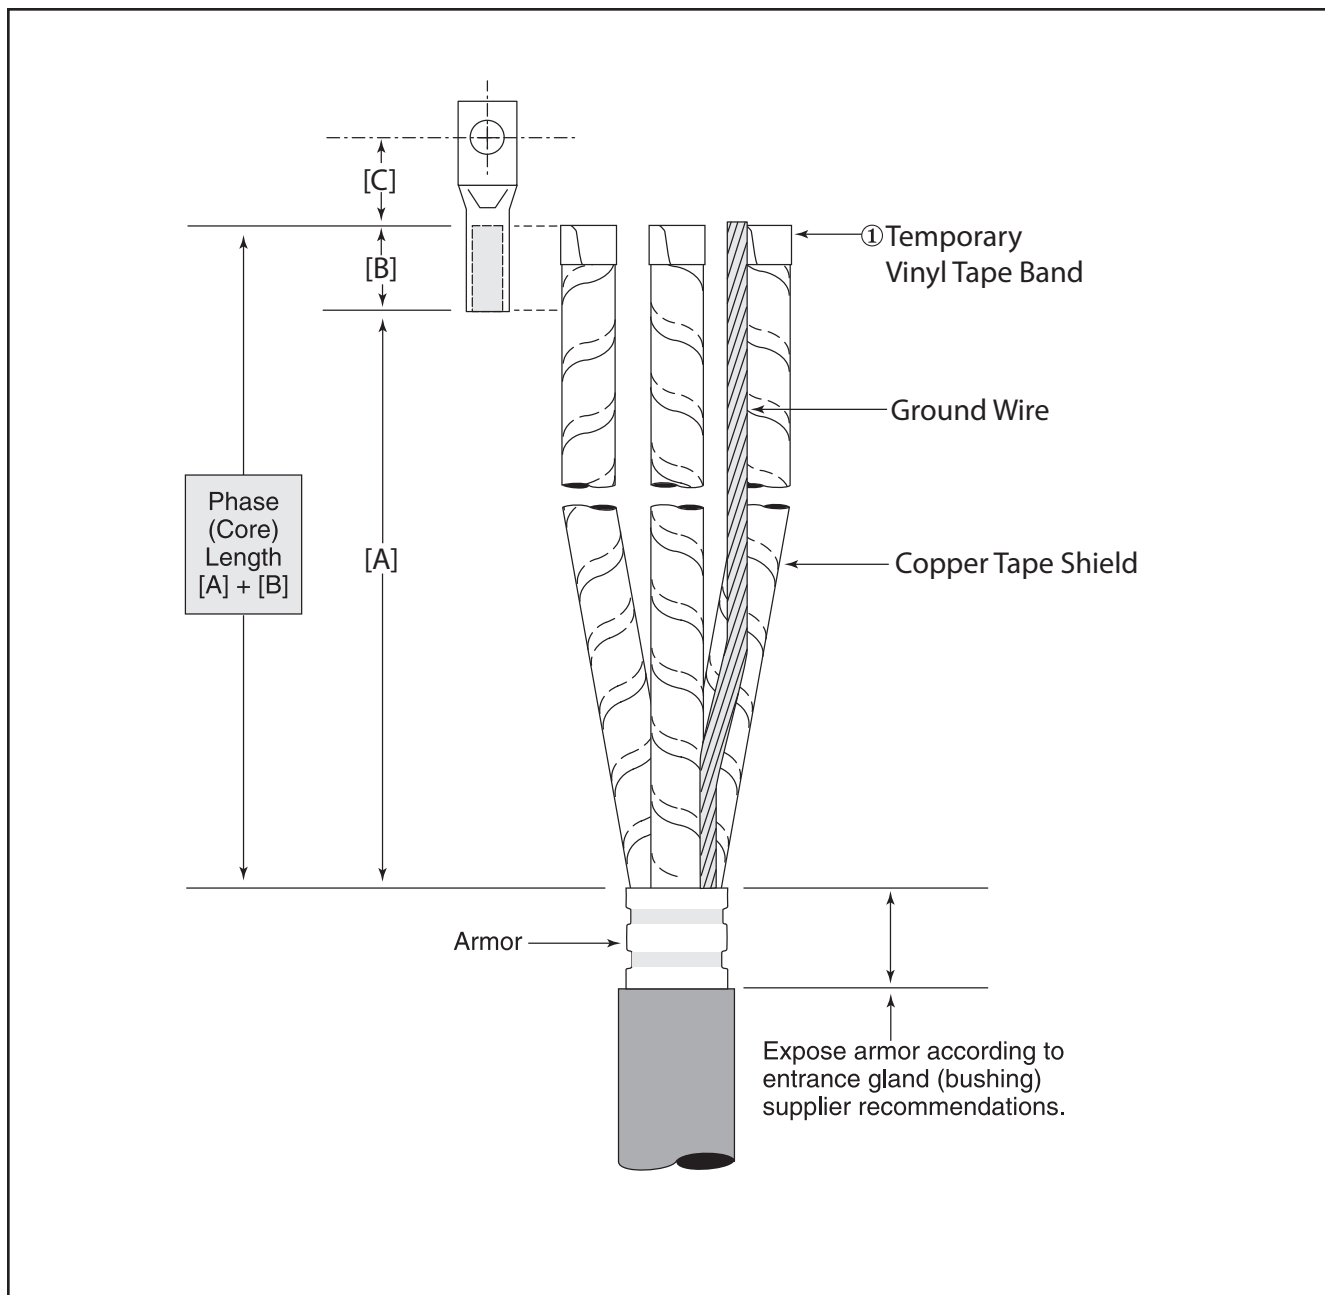

Figure 1
- 1.1 Determine phase (core) length required for correct phase spacing and bolted terminal lug connections ([A] + [B], Figure 1, according to the longest phase to be connected). Allow for dimension [C] as needed.
- 1.3 Remove bedding (inner sheath), if present, and any remaining core fillers. Secure each copper tape shield end with a temporary band of vinyl tape (① Figure 1).